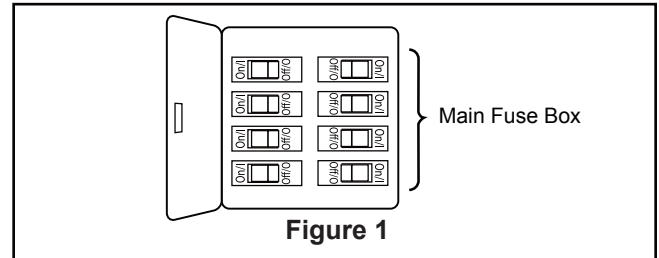
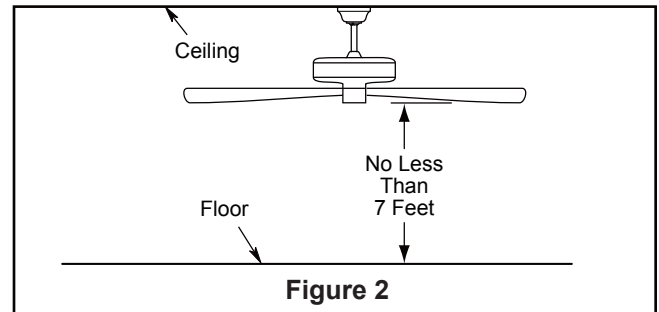
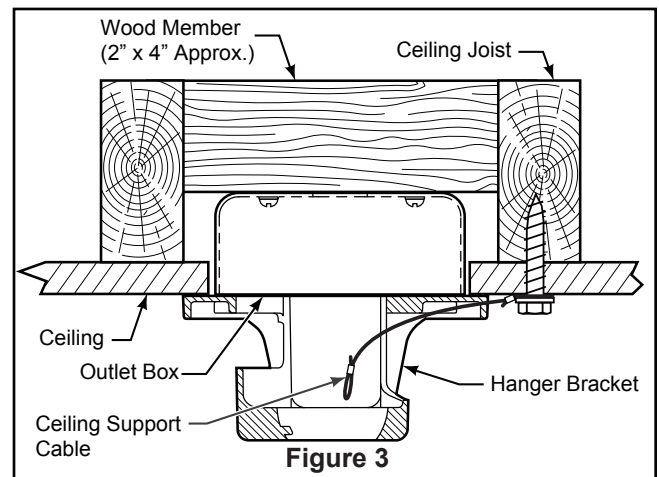

Figure 1
Figure 2
Figure 3
Your new ceiling fan will require a grounded electrical supply line of 120 volts AC, 60 HZ, 15 Amp Circuit. Electrical code requires use of a fan-rated outlet box to support the extra weight and motion associated with a ceiling fan. A fan-rated box will be labeled as such and typically supports up to a 70lb ceiling fan. Fan-Rated Outlet Boxes vary in ratings and design. Ensure the ratings of your ceiling fan outlet box meet the requirements for the ceiling fan being installed. Figure 1, Figure 2 and Figure 3 depicts different structural configurations that may be used for mounting the outlet box.
## Low profile box (Figure 1)
## Deep box (Figure 2)
### Deep box with brace (Figure 3)
**2.** Prior to assembly, set aside and save the hardware bags packaged with your fan. Remove the hanger ball by loosening the set screw in the hanger ball until the ball falls freely down the downrod. Remove the pin from the downrod, then remove the hanger ball. Retain the pin and hanger ball for reinstallation in Step 7. (Figure 2)
**3.** Remove the hairpin clip and clevis pin from the bottom of downrod. Retain the pin and clip for reinstallation in Step 5. (Figure 3)
To avoid possible fire or shock, be sure electricity is turned off at the main fuse box before hanging. (Figure 1)
The fan must be hung with at least 7' of clearance from floor to blades. (Figure 2)
1. Securely attach the hanger bracket to the outlet box using the outlet box screws and washers supplied with the outlet box. (Figure 3)
2. Drill a 1/4" pilot hole into the building structure to prevent splitting or cracking with installation of the lag bolt. Using the 3/8" x 2" lag bolt and flat washer, attach safety cable to ceiling joist or wood structural member. The lag bolt will pass through the flat washer, safety cable loop, and into the building structure. (Figure 3)
**NOTE:** Ceiling support cable cannot be secured to outlet box only, it must be directly secured to ceiling joist or structural member using the 3/8" x 2" lag bolt and flat washer. (Figure 3)
1. To set the code on receiver unit, slide dip switches to the same positions as set on the remote control. (Figure 1)
To avoid possible electrical shock, be sure electricity is turned off at the main fuse box before wiring. (Figure 2)
2. Slide the receiver into the hanger bracket before wiring as shown in figure 3.
1. Assemble canopy by rotating key slot in canopy over shoulder screw in hanger bracket, taking care not to pinch the wires. Tighten shoulder screw. Fully assemble and tighten second shoulder screw that was previously removed. (Figure 1)
2. Securely attach and tighten the canopy screw cover over the shoulder screws in the hanger bracket utilizing the key slot twist-lock feature. (Figure 2)
1. Position blade along the motor, aligning blade holes with holes in the top of the motor assembly flywheel. Make sure the blade is fully seated against the flywheel and install serrated head screws with stainless flat washers from the hardware bag, but don't fully tighten at this time. (Figure 1)
2. Install and securely tighten all screws with stainless flat washers at the underside of the blades, then securely tighten all previously installed screws on top of motor. (Figure 2)
3. Attach the plastic cap assembly to the motor assembly, which is held in place by a magnet. (Figure 3)
- 1. IMPORTANT:** Using a full range dimmer switch (not included) to control fan speed will damage the fan. To reduce the risk of fire or electrical shock, do not use a full range dimmer switch to control the fan speed. (Figure 1)
- 2.** Restore electrical power to the outlet box by turning the electricity on at the main fuse box. (Figure 2)
- 3.** Remove the battery cover from remote control by screwdriver and retain the screw for later. (Figure 3)